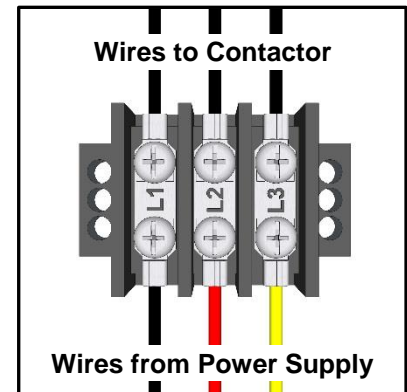

Figure 16
- 1** Have your certified electrician connect power to the 3 terminal T-bar and ground wire to grounding block. (see **Figure 16**)